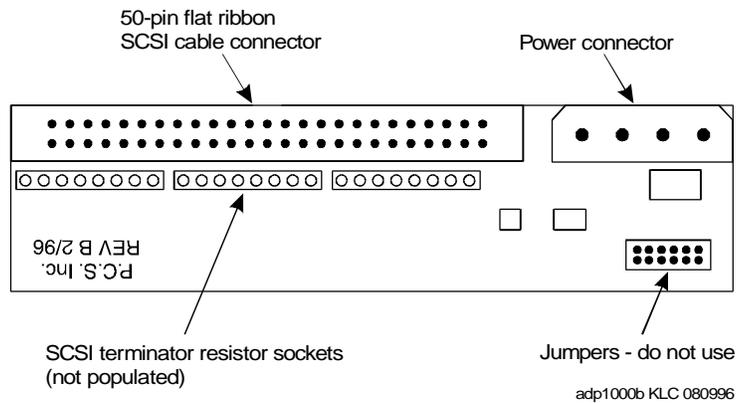
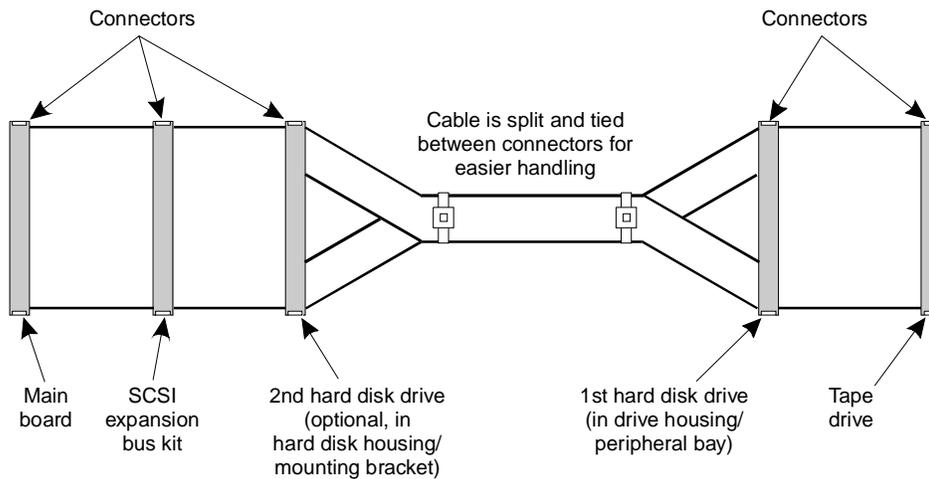

Figure 10-8. Faceplate of the MAP/5 Adapter Card for 1-Gbyte Drives
Figure 10-9. SCSI Cable Connector Locations
- a. If you are installing the 2-Gbyte drive (comcode: 407596857), connect the SCSI ribbon to the 50-pin flat ribbon SCSI cable connector on the drive. Figure 10-9 shows the SCSI cable connector assignments.
- b. If you are installing the 1 Gbyte drive (comcode 407340959), connect the SCSI ribbon to the 50-pin flat ribbon SCSI cable connector on the MAP/5 adapter card. This connector is located on the same side of the card as the jumpers. Figure 10-8 shows the face of the adapter card. Figure 10-9 shows the SCSI cable connector assignments.
1. Connect the power cable to the power connector (Figure 10-8).